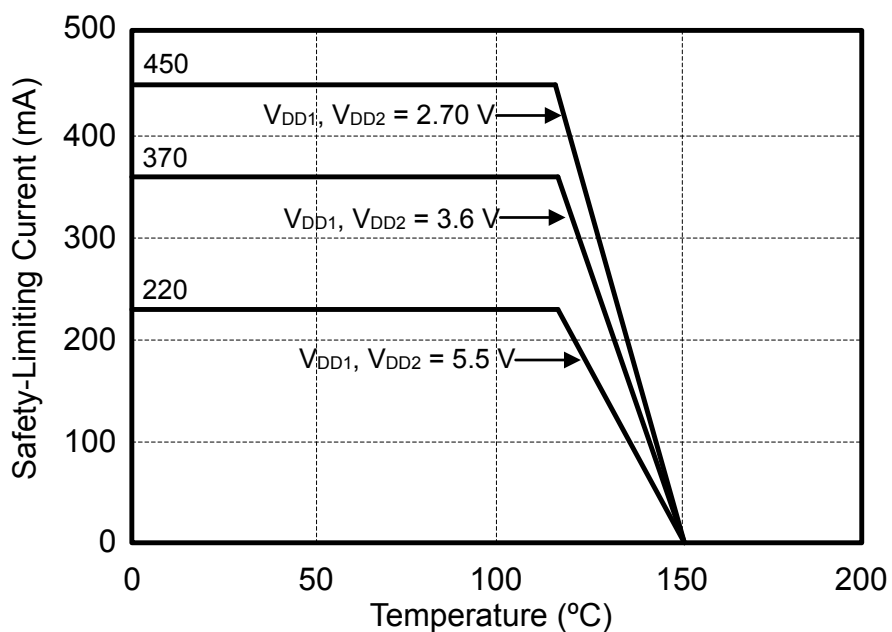
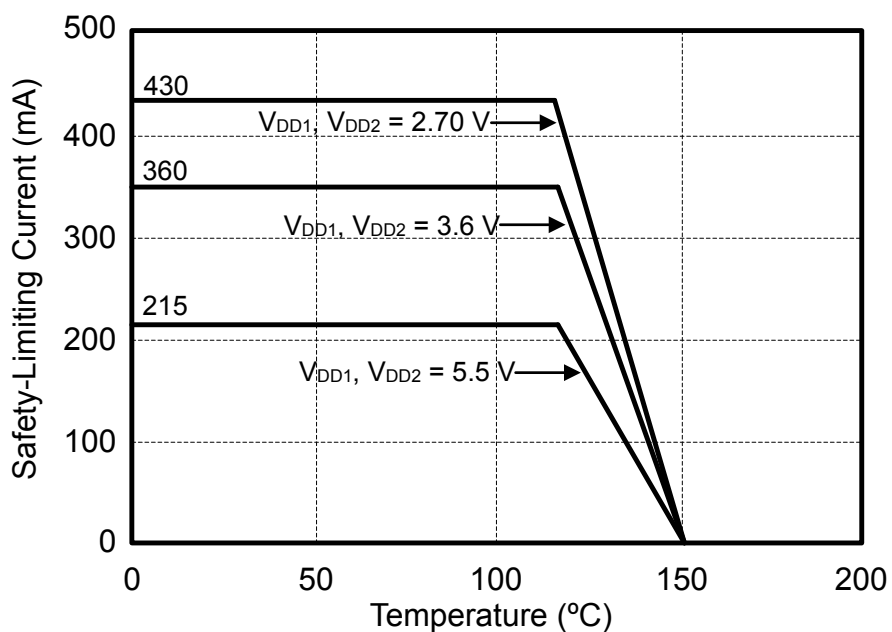

Figure 4.4. (WB SOIC-16) Thermal Derating Curve, Dependence of Safety Limiting Values with Case Temperature per VDE 0884-10
Figure 4.5. (NB SOIC-16, QSOP-16) Thermal Derating Curve, Dependence of Safety Limiting Values with Case Temperature per VDE 0884-10
1. Maximum value allowed in the event of a failure; also see the thermal derating curve in [Figure 4.4 \(WB SOIC-16\) Thermal Derating Curve, Dependence of Safety Limiting Values with Case Temperature per VDE 0884-10 on page 24](#) and [Figure 4.5 \(NB SOIC-16, QSOP-16\) Thermal Derating Curve, Dependence of Safety Limiting Values with Case Temperature per VDE 0884-10 on page 24](#).